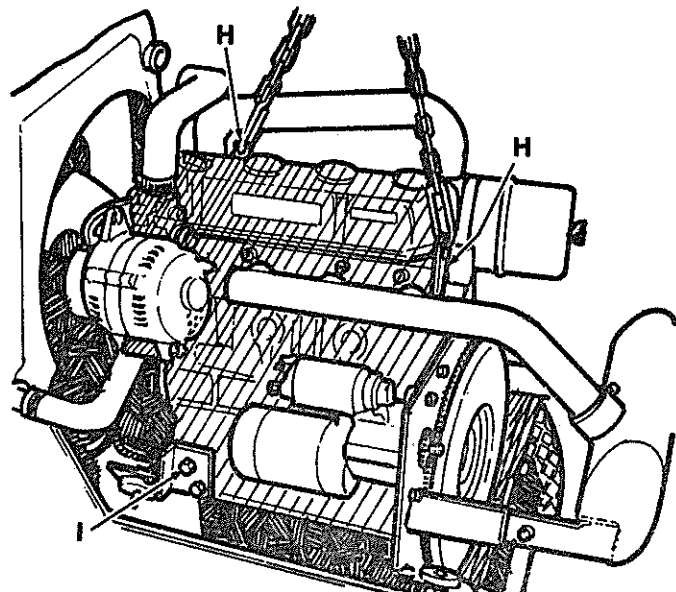

Fig. 7-14
2. Use a 12mm wrench to remove battery cable at starter terminal and ground cable at lifting bracket (H, Fig. 7-14). Re-install